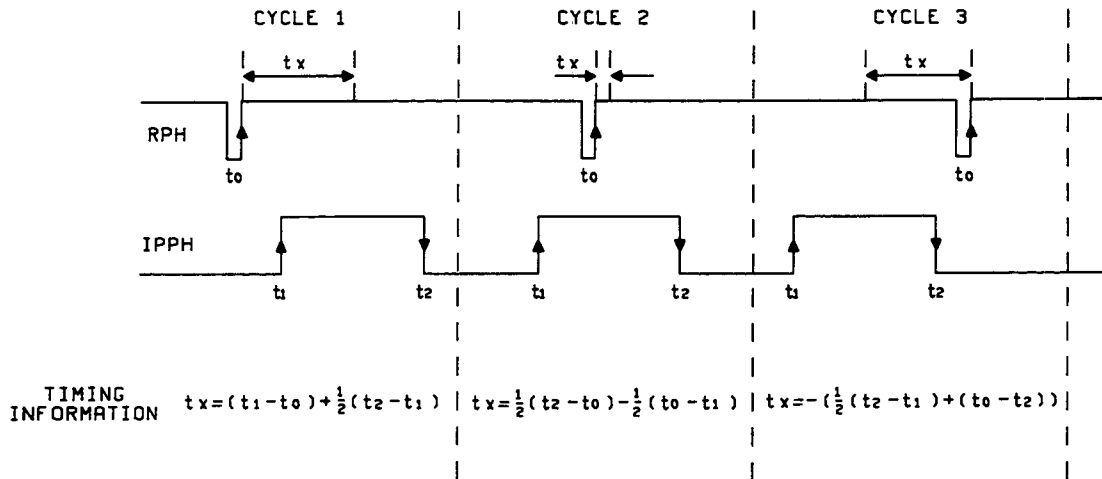
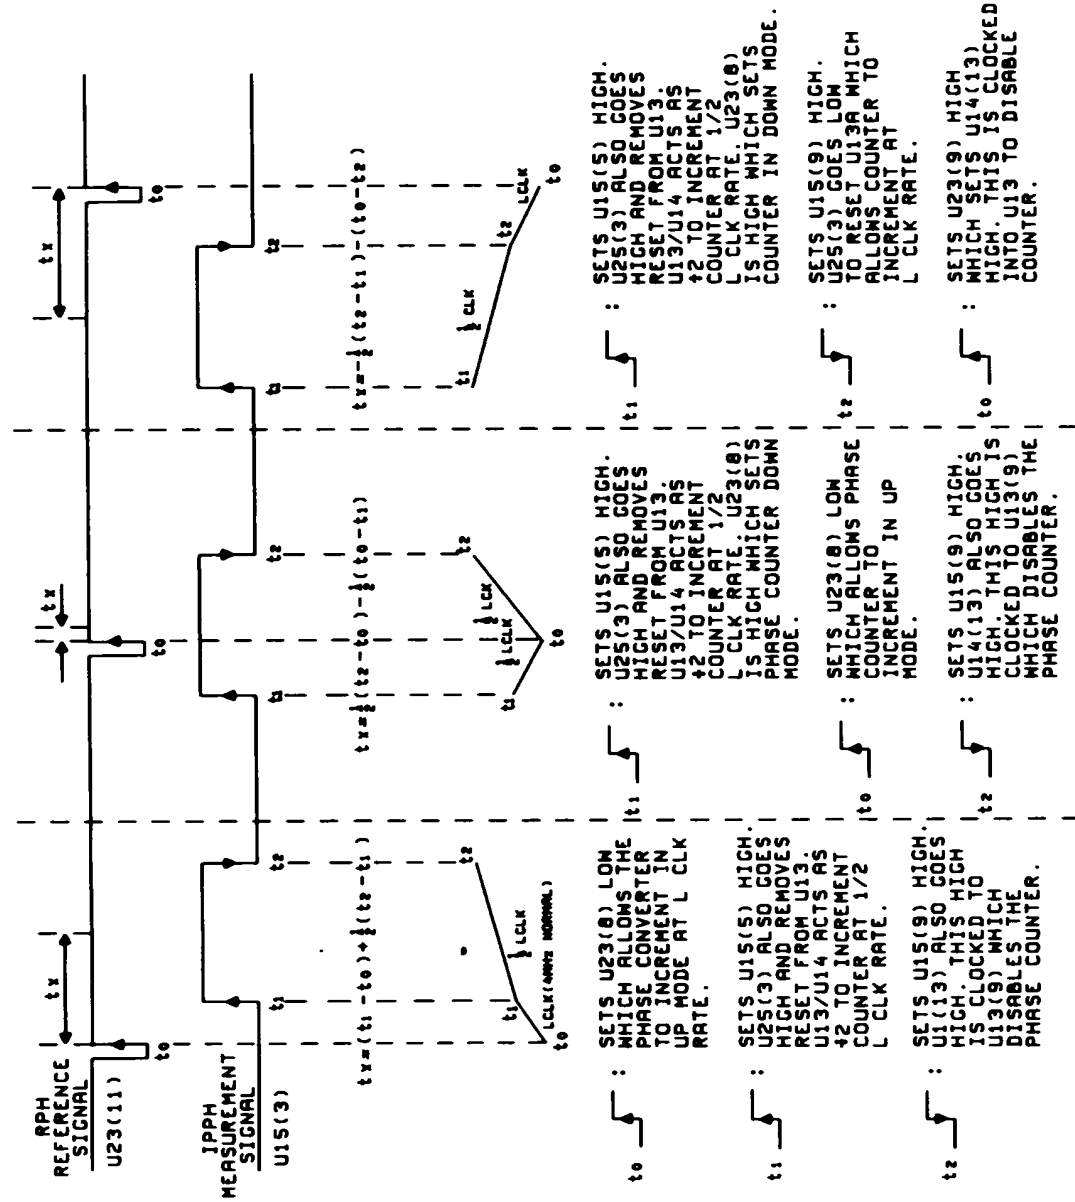

Figure A4-7 Jitter and IP PH
Figure A4-8 Timing at the Phase Comparator Input
A4-12 Three cycles with jitter on IP PH are illustrated in Figure A4-7 together with the timing information between the leading edge of R PH and the midpoint of IP PH. Note that in Figure A4-7 the timing does vary.
A4-13 The timing information (t_0 , t_1 and t_2) shown in Figure A4-7 is decoded from R PH and IP PH by the Decoder. This information allows the Phase Counter to be incremented up or down over each cycle by either L CLK or $1/2$ L CLK as per the decoder output instructions (see Figure A4-8). After 55 cycles the Measurement Cycle Counter flags the Initialising circuit which then instructs the Phase Counter to stop counting and loads the count into the processor on A13. On A13 the Count is scaled: converted to ms for display on the front panel.
A4-40 Three basic timing conditions relating the reference signal or Reference Phase R PH at TP1 and the measurement signal or input Phase IP PH at TP3 may be detected during an envelope delay measurement. These timing conditions produce control signals that drive the Up/Down Phase Counter. The Counter is incremented up or down at L CLK or 1/2 L CLK depending on which timing relationship is detected at the input of the Phase Comparator. Figure A4-8 illustrates the three timing conditions.
A4-41 The Measurement Cycle Counter is incremented each time U13(9) goes high (see Figure A4-8). When the measurement cycle count reaches 55 (see Paragraph A4-11) the total count in the Up/Down Phase Counter is applied to A13 for processing in LEN COUNT at U20(7) informs the processor that the envelope delay measurement is completed.